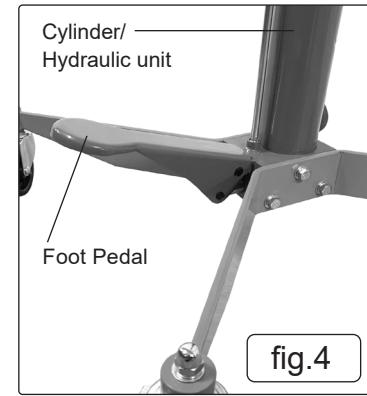

fig.4
- 7.2.4. Raise the saddle by pumping the jack foot pedal. See fig.4